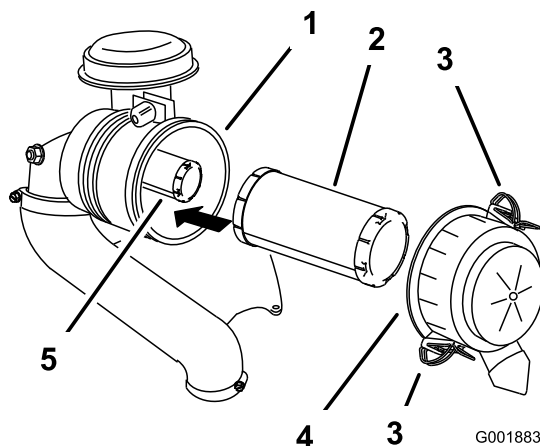

Figure 31
3. Release the latches on the air cleaner and pull the air-cleaner cover off the air-cleaner body (Figure 31).
5. Gently slide the primary filter out of the air-cleaner body (Figure 31).
2. If the inner filter is being replaced, carefully slide it into the filter body (Figure 31).
3. Carefully slide the primary filter over the inner filter (Figure 31).
4. Install the air-cleaner cover and secure the latches (Figure 31).